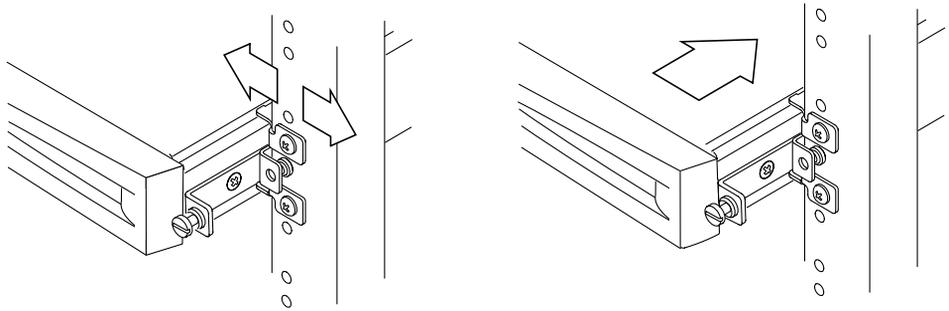

FIGURE 3-9 Adjusting the Mount and Tightening the Thumbscrew
- 13. Secure the captive screws on the front of the array into the front ear of each bracket on the front posts (FIGURE 3-9).**